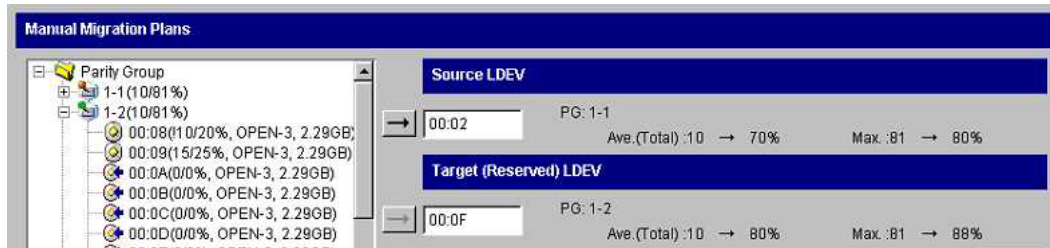

Figure 5.5 Source and Target Text Boxes (example only)
4. Select the source volume in the tree view and click the → button to the left of the **Source LDEV** text box (see Figure 5.5). The selected volume appears in the **Source LDEV** text box. *Tip:* If you are using Windows®, you can drag and drop the source volume to the **Source LDEV** text box.
7. In the tree view, select the **target** (destination) volume and click the → button on the left side of the **Target LDEV** text box (refer to Figure 5.5). **Tip:** If you are using Windows®, you can drag and drop the target volume to the **Target LDEV** text box.